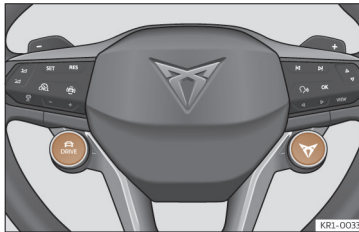

Fig. 108 Multifunction steering wheel: DRIVE and CUPRA buttons for selecting and changing the driving profile.
- **OR:** Press the ¹⁾ button on the multifunction steering wheel >>> **Fig. 108** to activate the **Cupra** driving profile.
- **OR:** Repeatedly press the ^{DRIVE} button on the multifunction steering wheel >>> **Fig. 108** to switch between driving profiles.